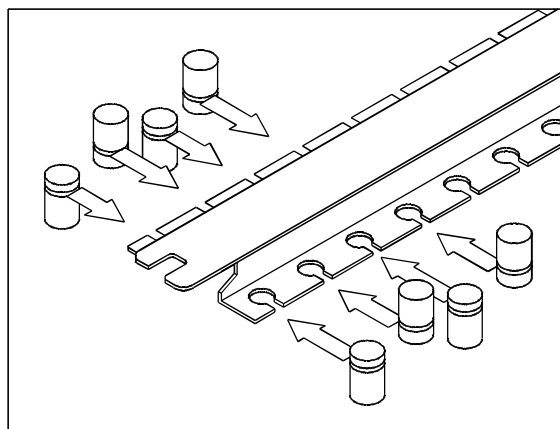

Figure 2-5: Inserting the rubber buffers
2. Insert the rubber buffers (provided) into the hold-down clamp. These buffers offer the plug-in cards two levels of protection against vibration. (See Fig. 2-5)